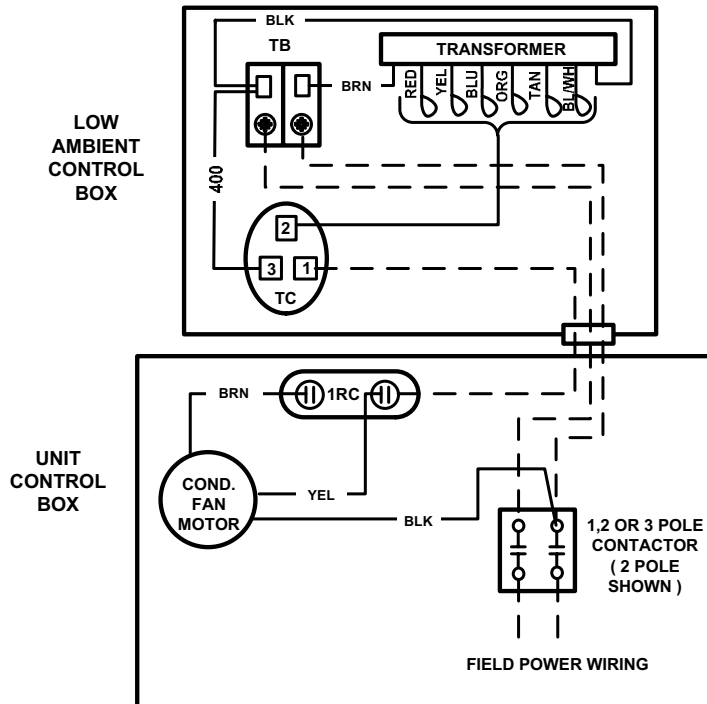

FIGURE 2 - HCE / HHB 090 CONNECTION DIAGRAM
7. Field supply three wires and conduit (with water tight fittings) between the low ambient control box and the unit control box. Minimum wire size to be 14 AWG. See Figures 2, 3 and 4 for typical low ambient accessory wiring.
9. On H*CE/H*HB090 units remove the existing wire connecting the condenser fan motor capacitor (1RC) and the load side of the contactor. See Figure 2.
12. Connect the three wires indicated in Step 7 to the proper terminations between the accessory control box and the unit control box. Refer to Figure 2 or the respective wiring label furnished with the accessory.